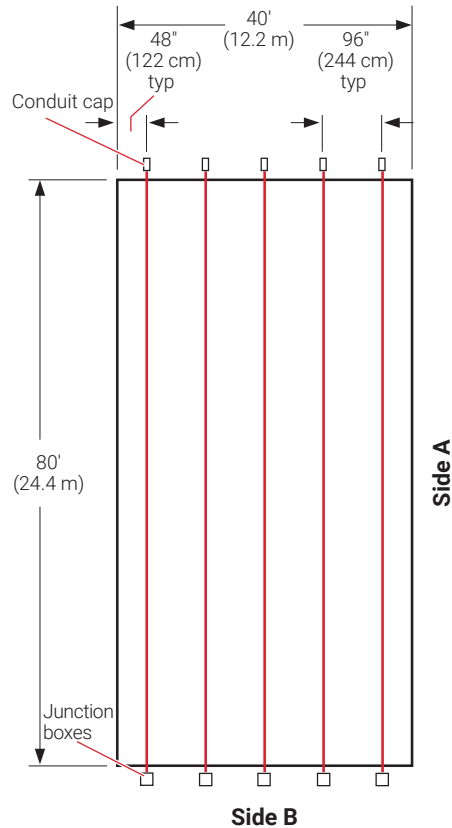

Fig. 12 Layout for straight run example
MI cables in conduit can only be installed using the straight run layout shown in Fig. 12.
To calculate the number of conduit runs from your scaled drawing, refer to Fig. 12, and calculate as follows:
- The conduits must be laid out in straight runs as shown in Fig. 12.
- Straight run layout has one junction box per conduit run (see Fig. 12 for MI cable).